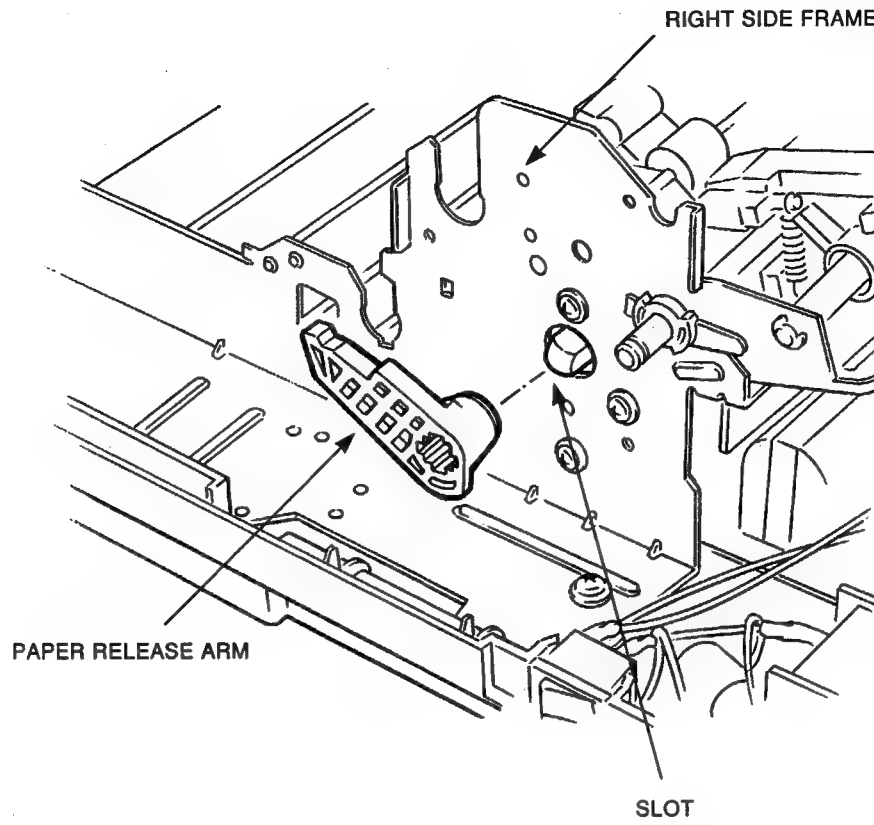

Figure 3-56 Paper Release Arm
2. Turn the paper release arm until the tab on the paper release arm aligns with the slot on the right side frame (see Figure 3-56).